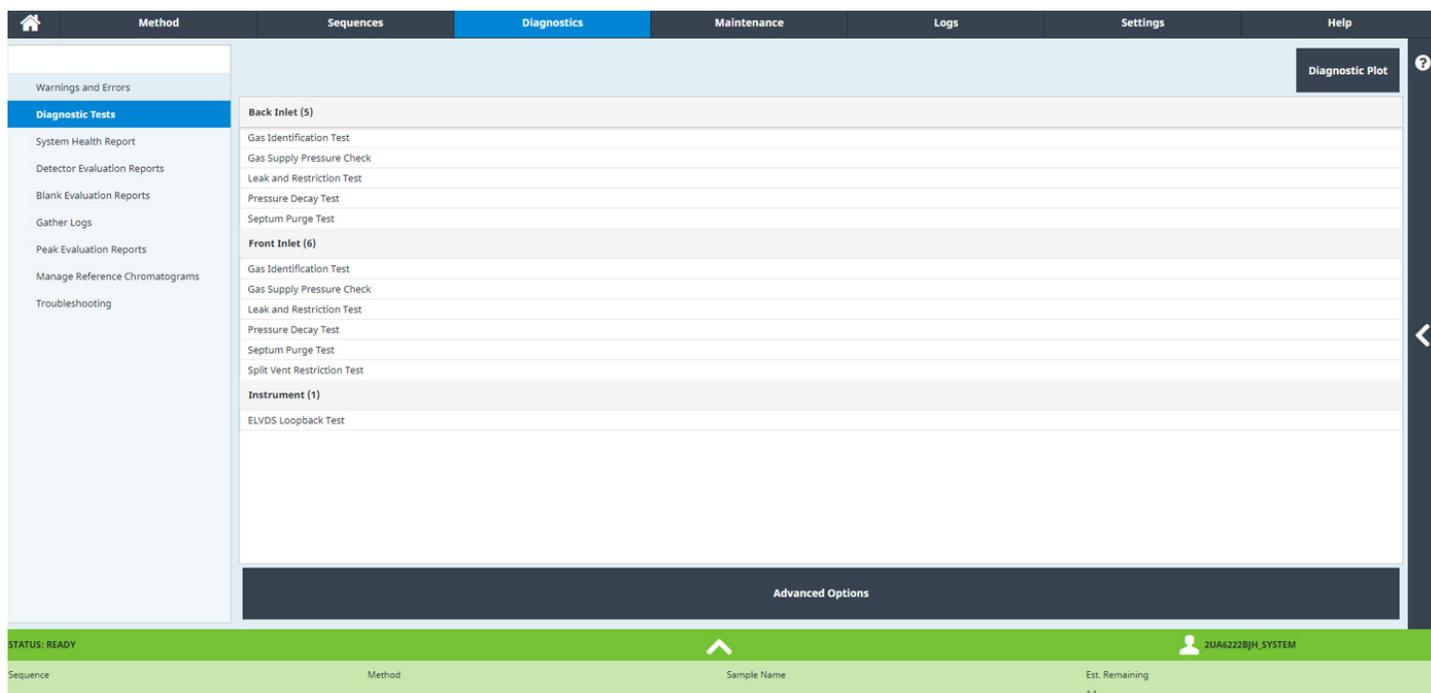

Figure 12. Diagnostic tests available for the HW configured on the GC are listed under Diagnostic Tests in the Diagnostics window.
Diagnostic tests: The next menu item in the Diagnostics tab is Diagnostics Tests, which is a list of procedures that the GC itself can automatically run or guide the user through for the hardware (HW) configured on the instrument (Figure 12).